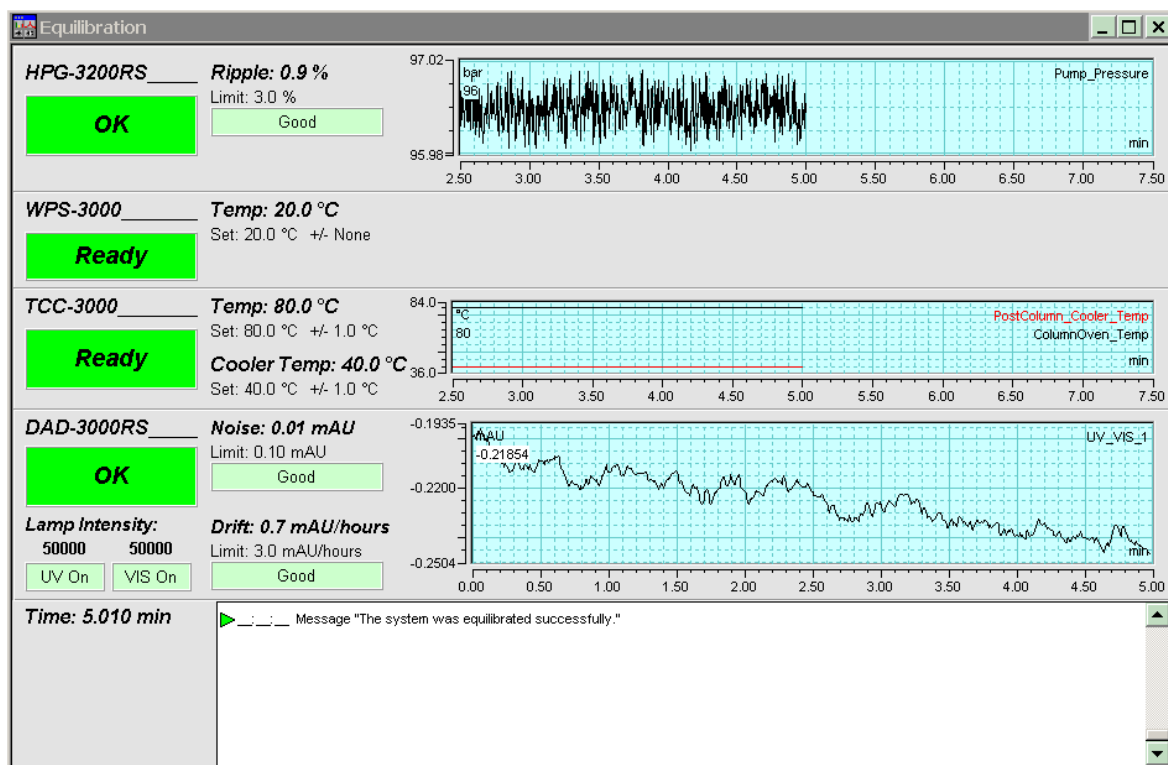

Fig. 30: Equilibration panel
- ◆ Opens the equilibration control panel for the instruments in the timebase (→ Fig. 30, page 58).